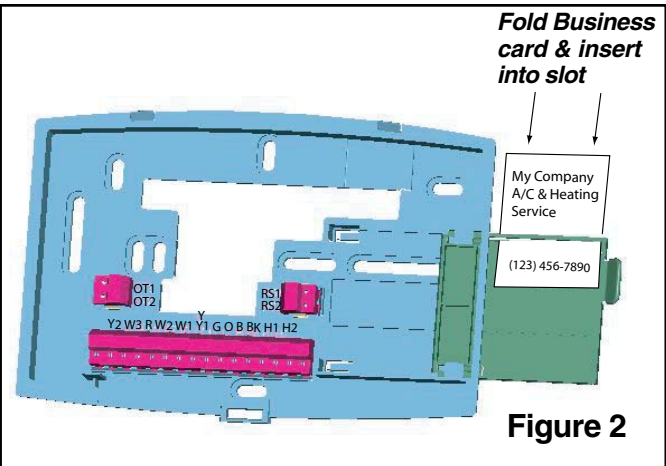

Figure 2
4. Slide the mounting base drawer out to expose all the mounting holes. Route control wires through the large hole in mounting base. Level mounting base against wall (for aesthetic value only) and mark wall through 2 mounting holes. See Figure 2.